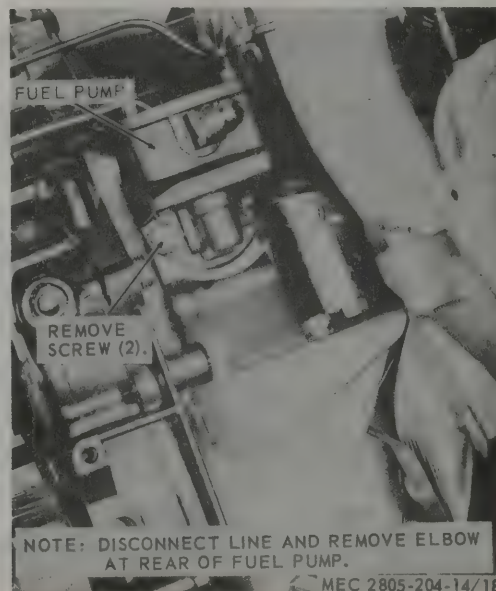

Figure 3-12. Fuel pump, removal and installation.
(1) Remove top shroud (para 3-17).
(2) Refer to figure 3-12 and remove fuel pump.
- (1) Refer to figure 3-12 and install fuel pump.
- (2) Install top shroud (para 3-17).